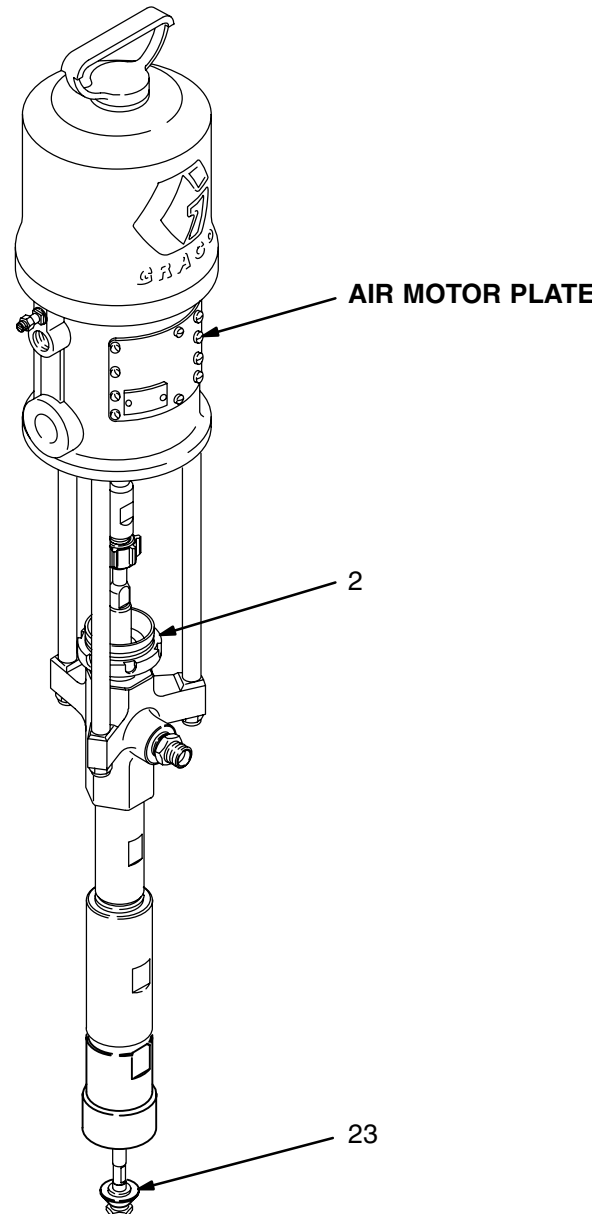

Fig 2
1. Fill the packing nut/wet-cup (2) 1/3 full with Graco Throat Seal Liquid (TSL) or compatible solvent. See Fig. 2.
Moving parts can pinch or amputate your fingers or other body parts. When the pump is operating, the priming piston (23) (located at the pump intake) and the air motor piston (located behind the air motor plates) move. See Fig. 2. Therefore, NEVER operate the pump with the air motor plates removed, and keep your fingers and hands away from the priming piston.